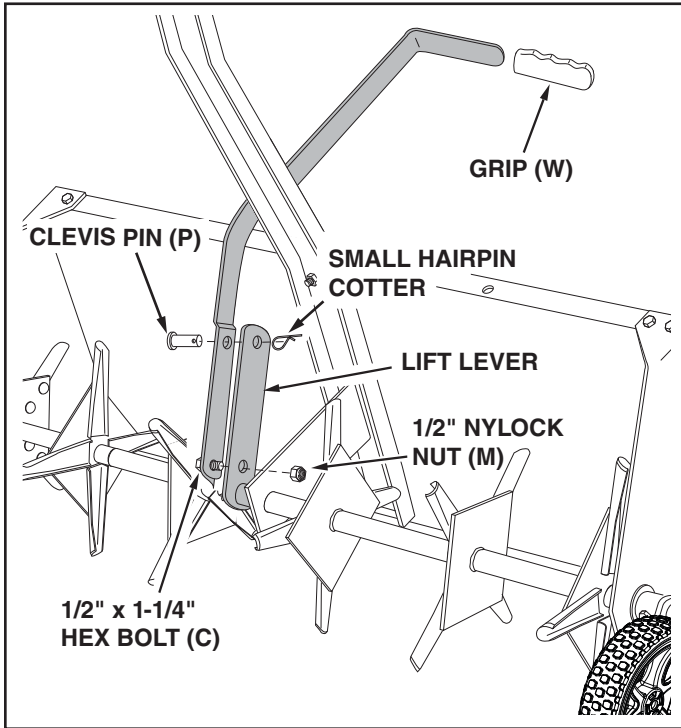

FIGURE 11
16. Turn the lift handle as shown in figure 11 and attach it to the side of the lift lever that is indicated. Use a 1/2" x 1-1/4" hex bolt (C) and 1/2" nylock nut (M) in the bottom hole and the clevis pin (P) and small hairpin cotter in the top hole. **Tighten** the bolt and nut. See figure 11.
17. Push the grip (W) onto the lift handle. See figure 11.